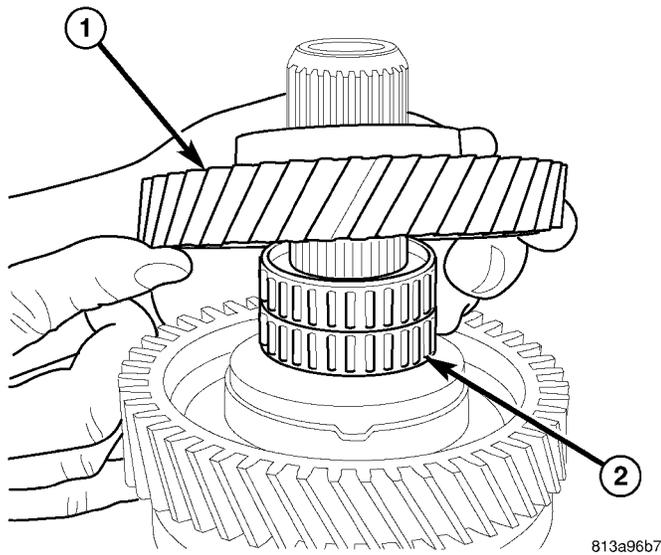

Fig. 30 REVERSE GEAR
(13) Remove reverse gear (1) (Fig. 30) and bearing (2).